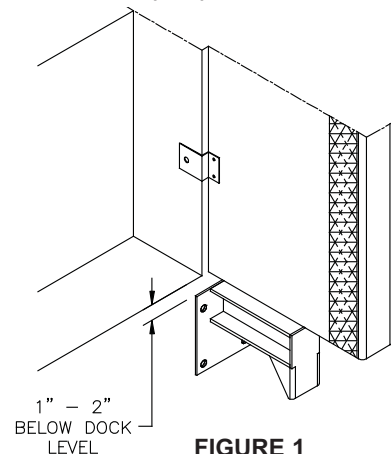

FIGURE 1
2. Position bumpers so that they are centered with the side frames, and located 1" - 2" below dock level. (See Figure 1)
3. Fasten the bumpers to the building's foundation wall using a minimum of (4) fasteners per bumper.